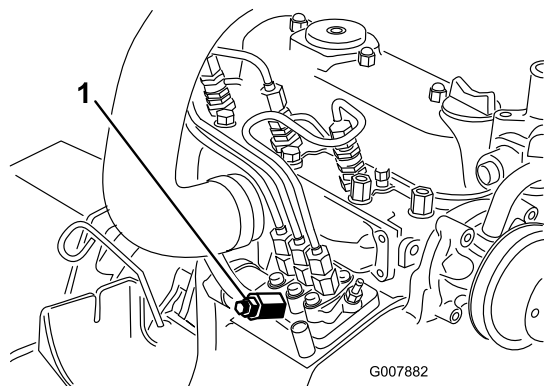

Figure 45
3. Place a rag under the air-bleed screw on the fuel-injection pump and open it (Figure 45).